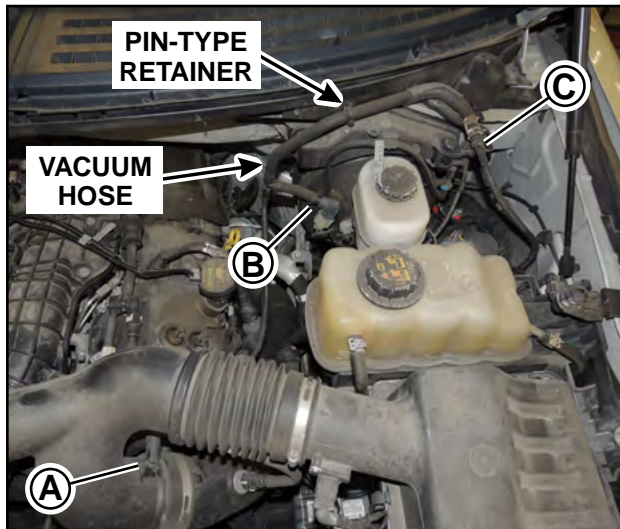

FIGURE 2a
1. Disconnect the vacuum hose from the following locations (see Figures 2a and 2b):
2. Disconnect the vacuum hose pin-type retainer, remove and discard the vacuum hose. See Figure 2a.
5. If the vacuum hose removed from the vehicle is equipped with an aspirator (see Figures 2a and 2b), a pipe cap (supplied with *new* vacuum hose) will need to be installed on the air cleaner outlet pipe. See Figure 4.